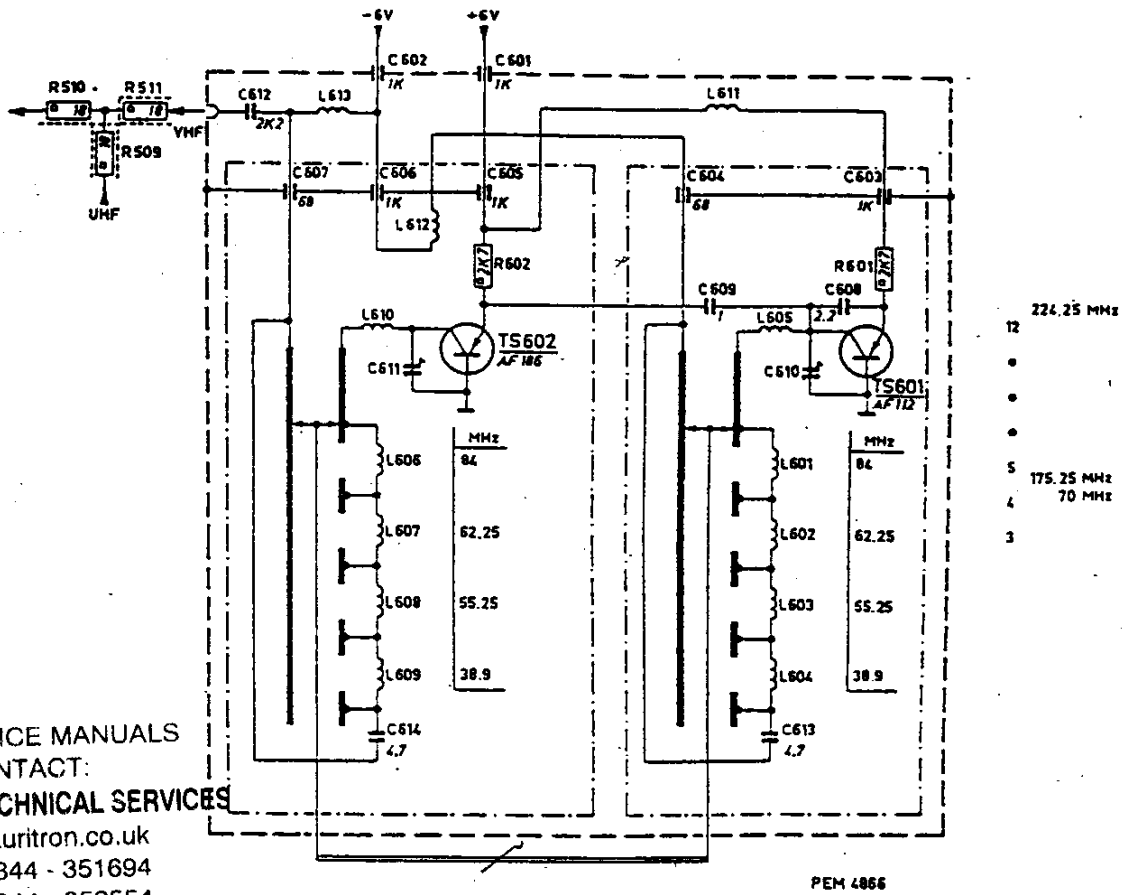

Fig. II-31b. Circuit diagram VHF-generator
F. VHF OSCILLATOR - UNIT 6 (see Fig. II-31b)